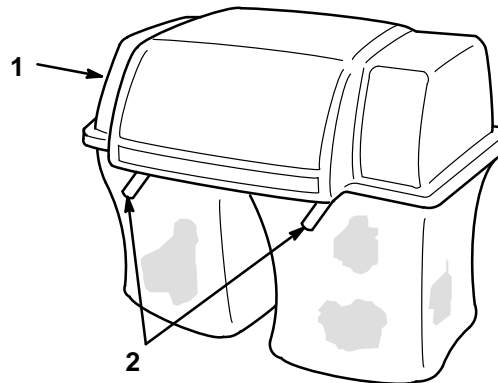

Figure 29
2. Open the bagger top and remove the grass bags from the bag frame (Fig. 29).